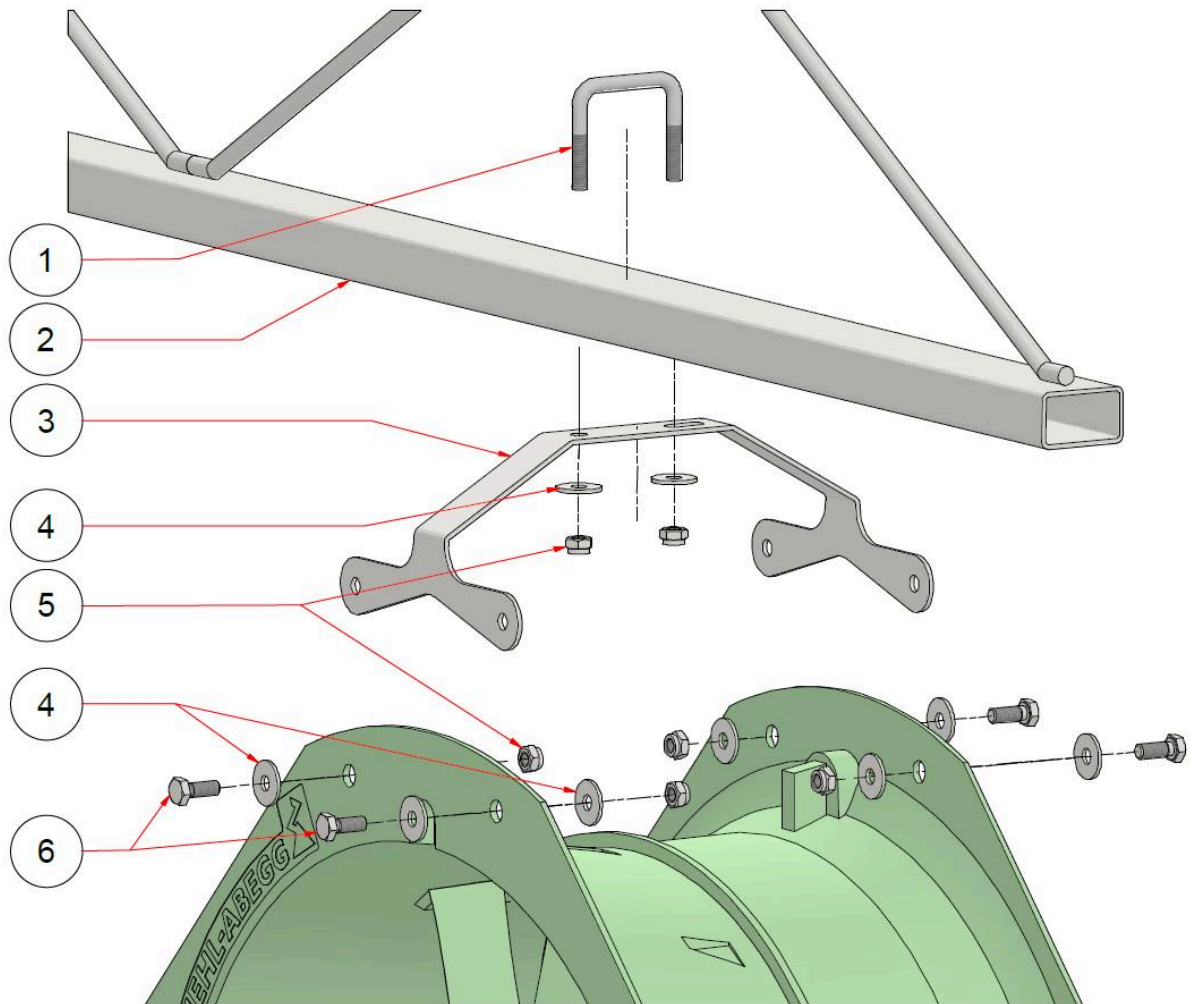

Figure 4 Installation of the bracket to the lattice
- Attach the mounting bracket (3) to the lattice (2);
- Use a rivet M8 (1), two M8 fender washers (4) and two M8 self-locking nuts (5);
- See Figure 4;
The numbering in Figure 4 is used for the instructions for adjusting the mounting brackets.